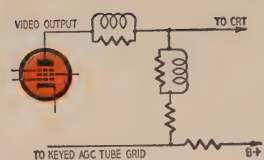
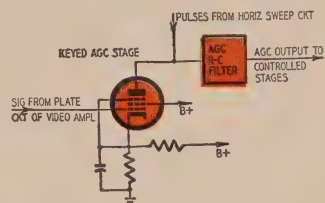

Fig. 5—Defective video amplifier changes grid potential of age tube.
Fig. 6—Age stage—when defective may develop excessive age voltage.
a. *No picture, no sound. Raster normal.* The most common causes for this trouble are the tubes through which both the video and sound signals pass. First change the rf amplifier, oscillator and mixer tubes in the front end; video (common) if tubes and other common video-sound stages such as the video detector and, in some intercarrier sets, the video amplifier. Less common possibilities which should not be overlooked are: last video amplifier stage (Fig. 5), sound output tube and age tube (Fig. 6).